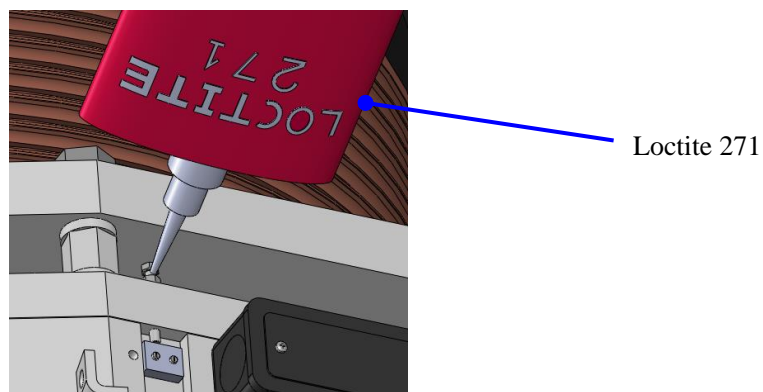

Figure 53: Apply Loctite 271
6. Apply Loctite 271 between the nut and the bolt thread for anti-vibration purpose. See Figure 53.